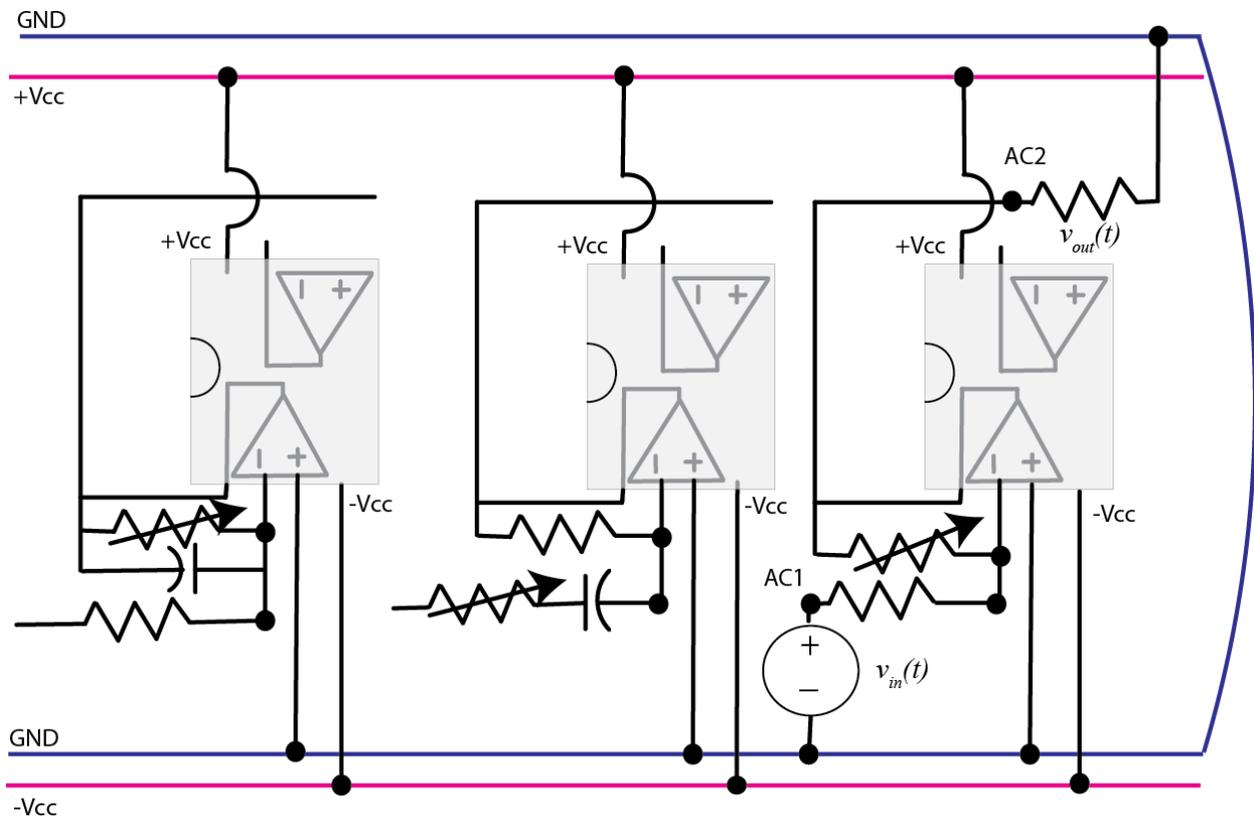

Figure 6. Allpass (gain) subsystem.
5) Construct the gain subsystem, as shown in Figure 6. Determine the frequency that is the average of the two cutoff frequencies for the lowpass and highpass filters you have constructed. Adjust the variable resistor so that for an input sine wave at this frequency with a 1 volt amplitude, the output has a 1 volt amplitude (or as close to this as you can get it).